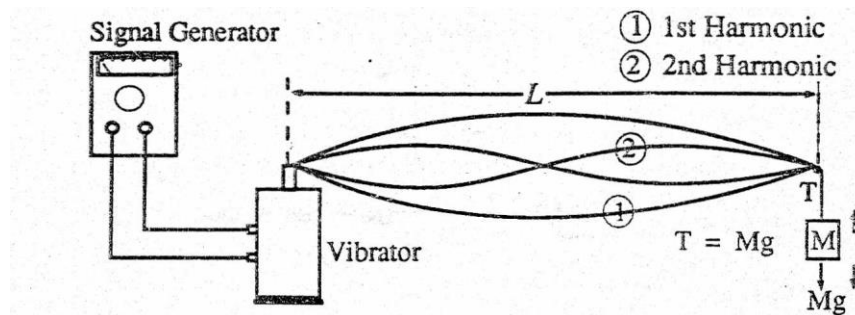

Fig. 17
1. The apparatus is set up as shown in Fig. 17 above.  $L$  should be between 1 and 1.5 metres.